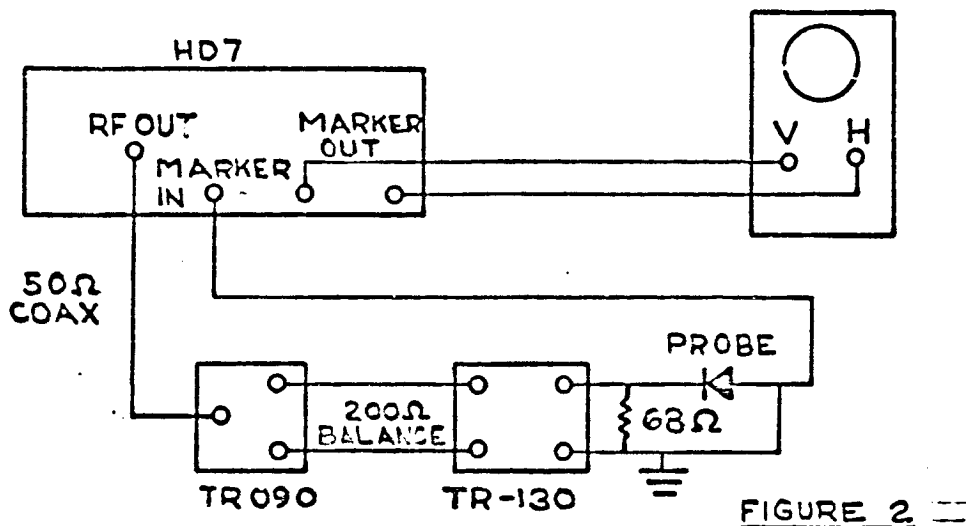

FIGURE 2
- (2) Set up equipment as shown in Figure 2. A deflection of 4 cm on the scope face corresponding to zero power loss. Using this reference as 0 dB compute the loss of the two transformers.
- (3) The losses of the TR090 have been determined. These are recorded in appendix. Compute the loss of the transformer at 2, 10, 20 and 30 megahertz.
- (4) Maximum loss of TR-130 shall be 3 dB.
- (5) Repeat the above for 700 ohm test.